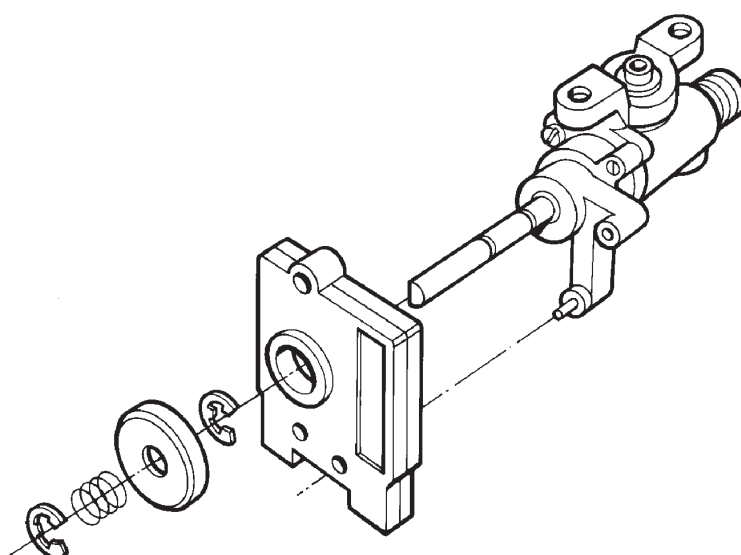

Fig. 28A
9. Remove clip on tap spindle, then remove spring, washer and ignition switch. Ensure new switch is fitted with tab towards tap. (See Fig. 28A).